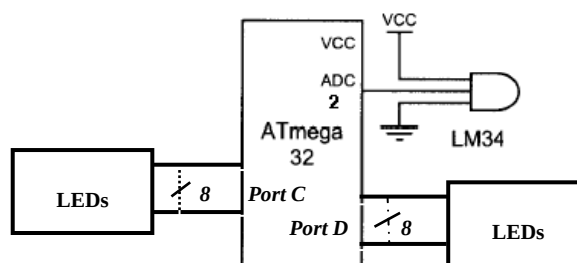

Figure 5: LM34 and LED display connection to AVR
- (b) Figure 5 shows the analog temperature display system. The system design is based on following points: